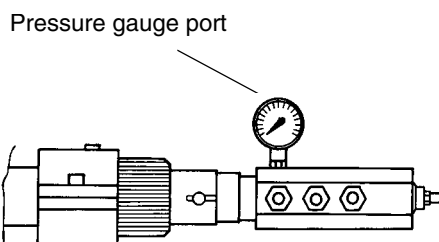

Fig. 25
- 9 the nozzle supply pressure is already factory-set and must not be changed. Only if necessary, adjust the supply pressure as follows (see related paragraph); insert a pressure gauge into the port showed on Fig. 25 and act on on the pump adjusting screw **VR** (see Fig. 24 and page 17) as to get the nozzle pressure at 25bar (Bergonzo nozzle - see page 34).